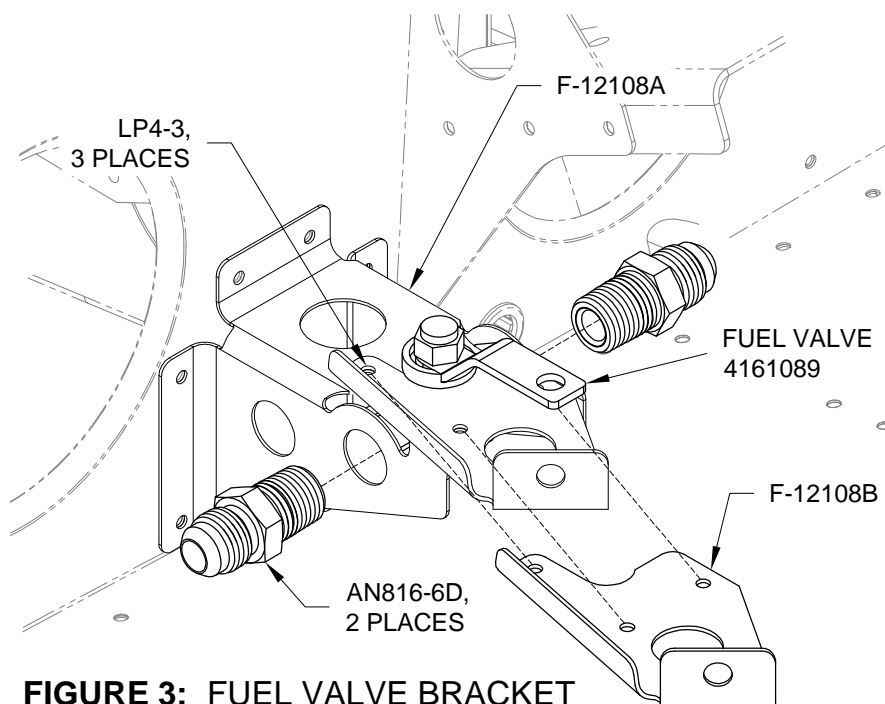

FIGURE 3: FUEL VALVE BRACKET ASSEMBLY
Step 4: Install the fluid fittings through the F-12108A and into the fuel valve as shown in Figure 3.
Step 5: Rivet the F-12108B per the call-outs in Figure 3.